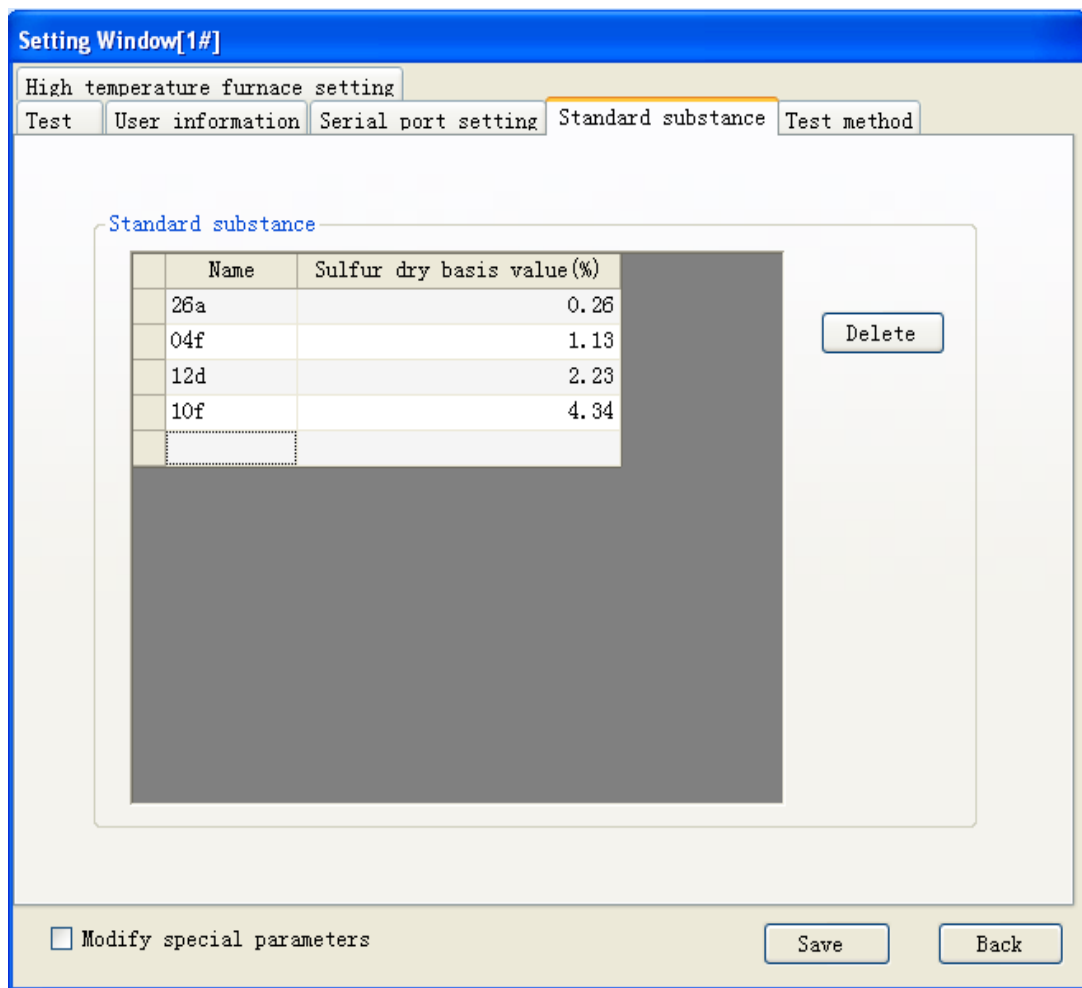

Fig. 4-3-5
**1-3. Standard substance:** Click “Standard Substance” tab of “Setting Window”, the window shown in Fig. 4-3-5 will popup.